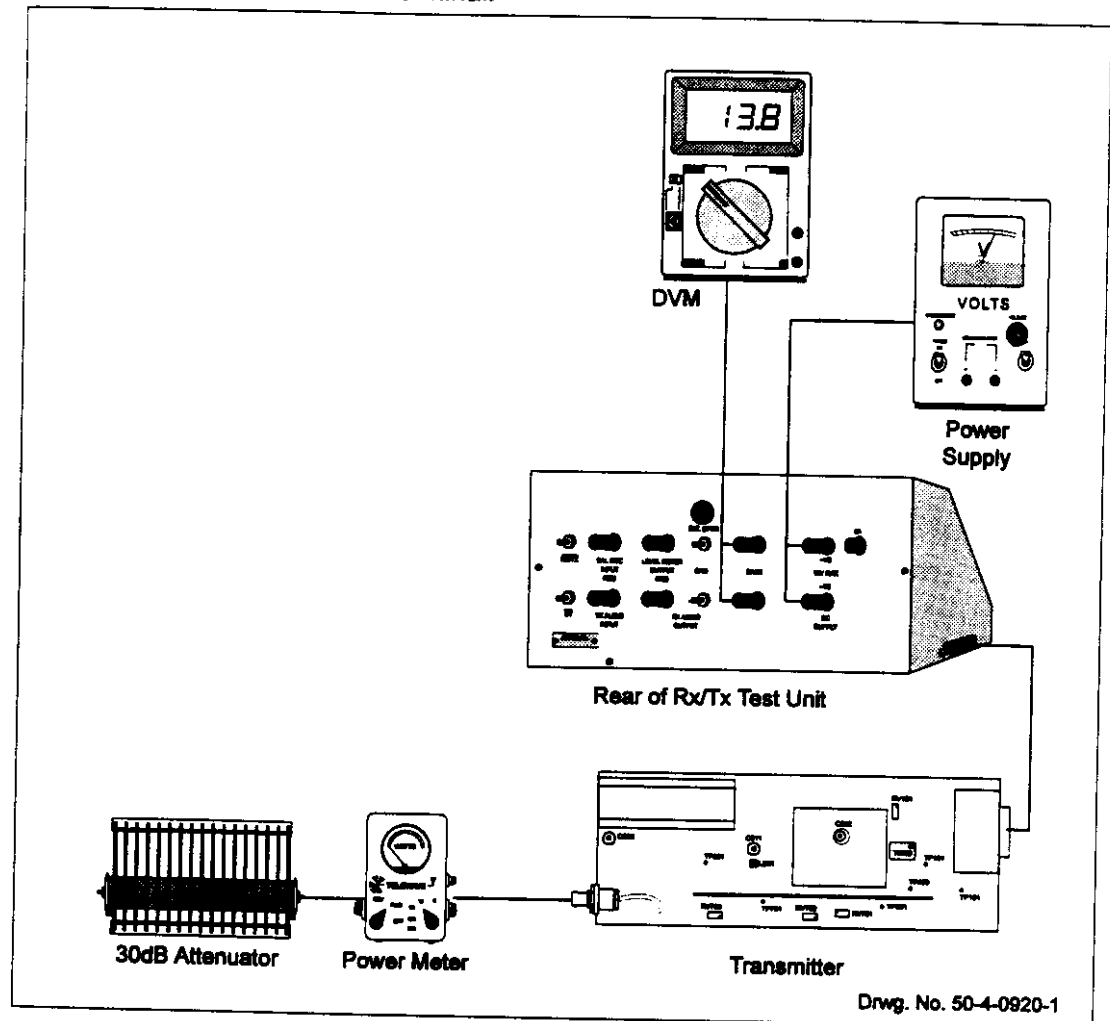

Figure 9.7: Alignment and Functional Checks Set-up
3. Connect the power supply and the digital voltmeter to the Test Unit, and then use a short ribbon cable to connect the Test Unit to the rear plug on the transmitter PCB. Finally, use a short length of co-axial cable to connect the RF output plug on the transmitter PCB to the RF power meter, terminated with a 30 dB attenuator. Refer to Figure 9.7 for connection details.
1. Connect the transmitter PCB to the test equipment as shown in Figure 9.7. Connect the frequency counter to the output of the attenuator. Allow the equipment to be fully warmed up, then turn the modulation down to 0 mV_{rms}.
1. Connect the transmitter PCB to the test equipment as shown in Figure 9.7.